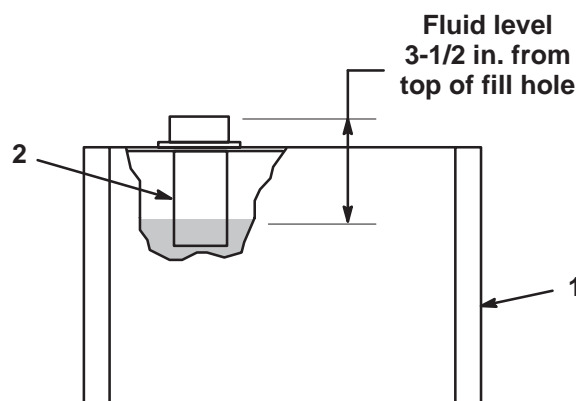

Figure 15
2. Remove the cap from the top of the reservoir and check the fluid level. The fluid should be approximately 3-1/2 in. (89 mm) below the top of the fill hole (Fig. 15).